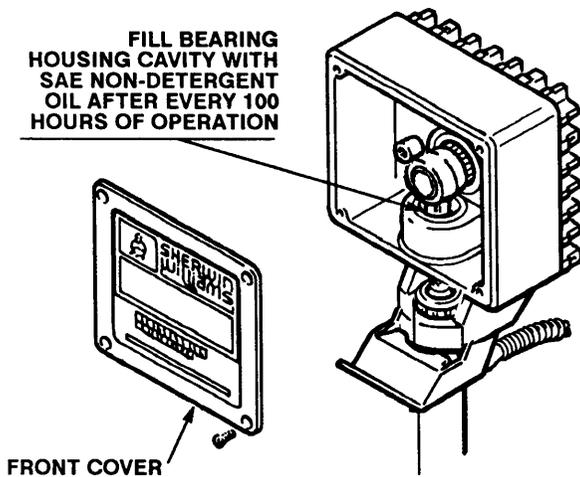

Fig 3
4. **Lubricate the bearing housing after every 100 hours of operation.** Relieve the pressure. Remove the front cover. Fill the bearing housing cavity with SAE 10 non-detergent oil. See Fig 3.